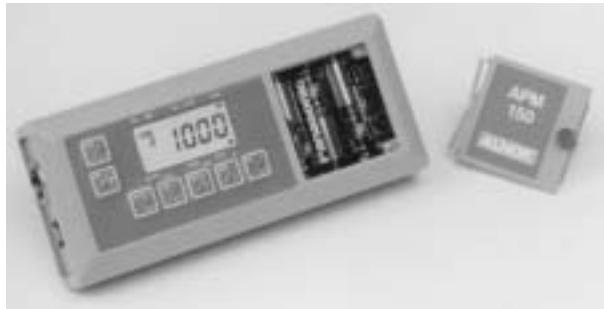

Figure 1—Front view
- Slide the cover left and lift it out (Fig. 1).